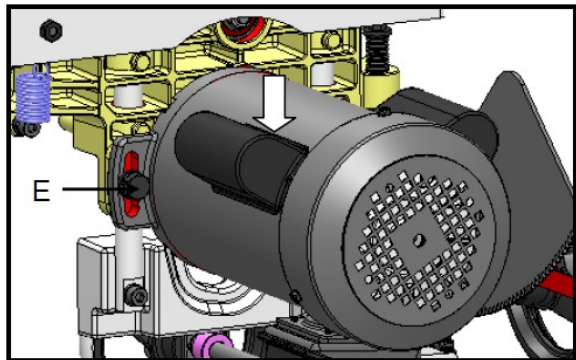

Figure 44
5. Loosen the Hex cap screw (E) figure 44 then push the motor down.
7. Tighten the Hex Cap Screw (E), Figure 44 re-install the dust hood,